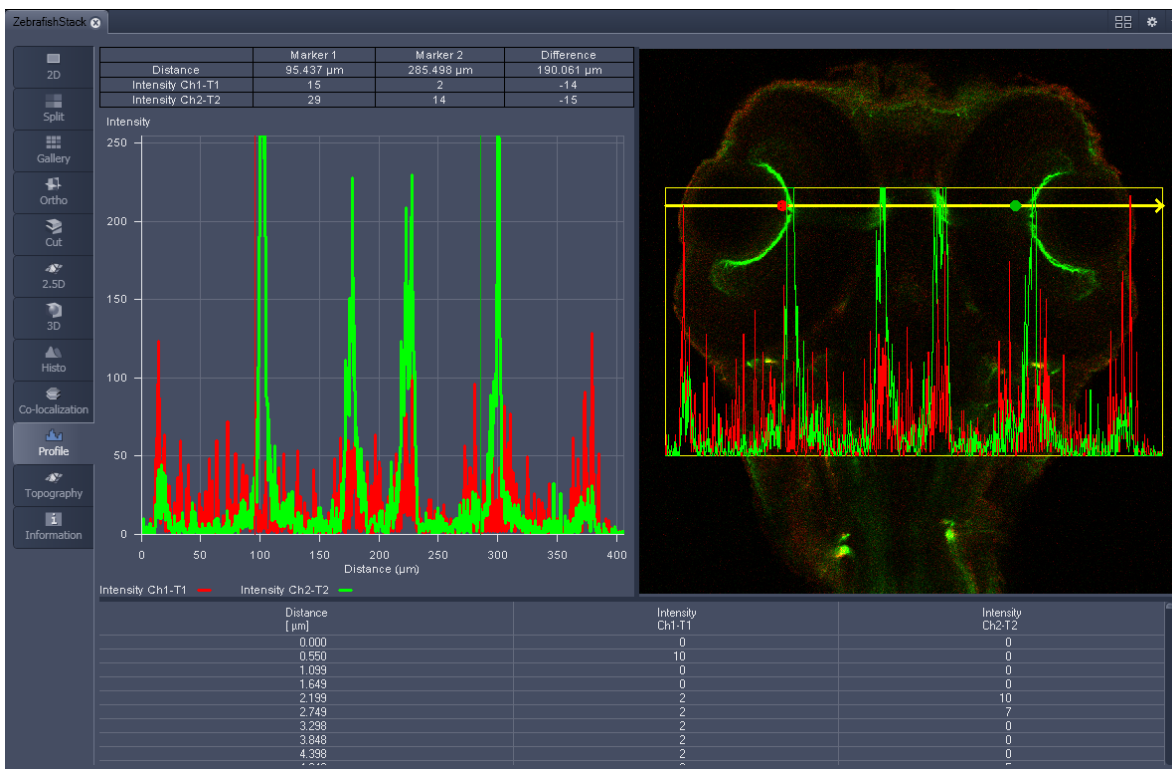

Fig. 673 Image Display - Profile View, Profile displayed in Image
- Tick the **Profile in Image Display** block to see an intensity graph superimposed on the image (see Fig. 673).